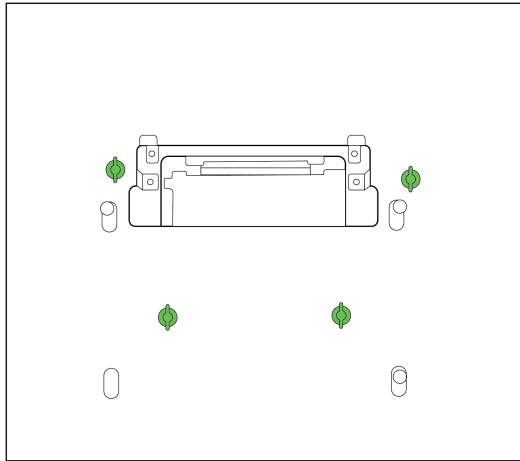

Figure 3-7. Ensuring that all four wing bolts are inserted
10. Repeat steps 8 and 9 for each hole in the platform (Figure 3-7).